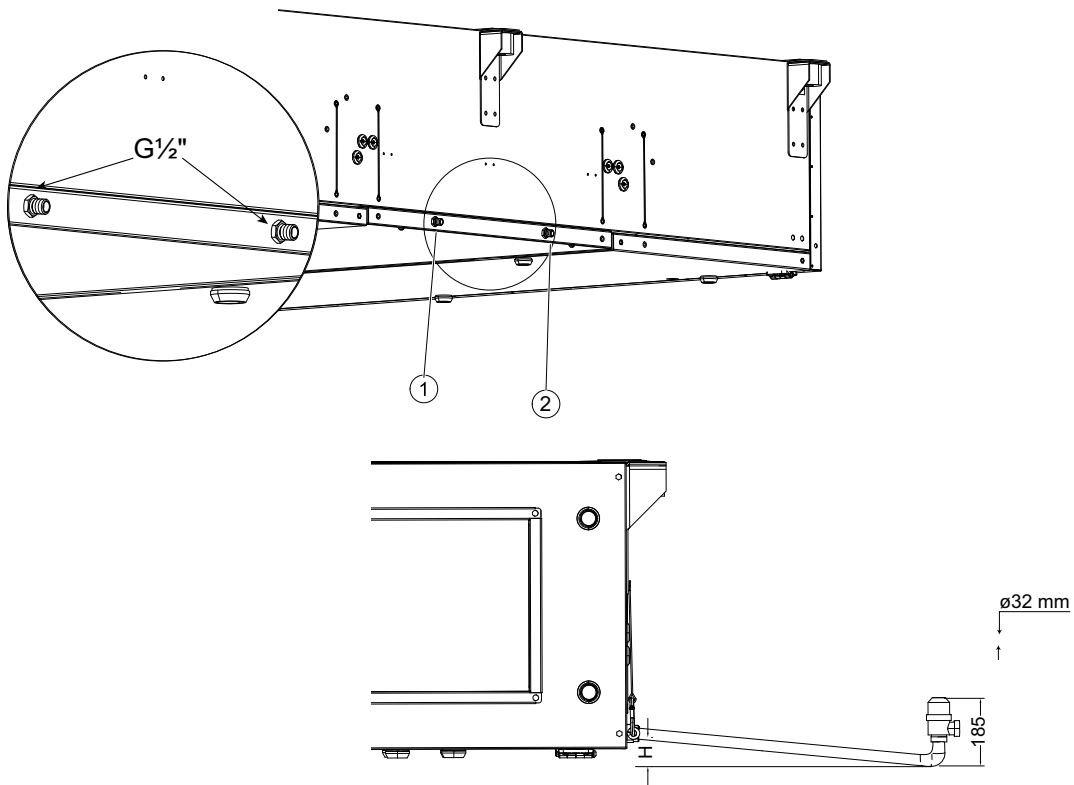

Fig. 4 Drainage connection, right hand unit
The unit must be connected to the condensation drain. A transition, tube and drain trap are enclosed upon delivery. Connect the drainage on the units exhaust side (pos 2, figure 4). The drainage on the supply side (pos 1) must be connected if the unit will be used with cooling equipment or if it will run extensively where the outdoor climate is very humid. On left hand units the positions of the connection are reversed.